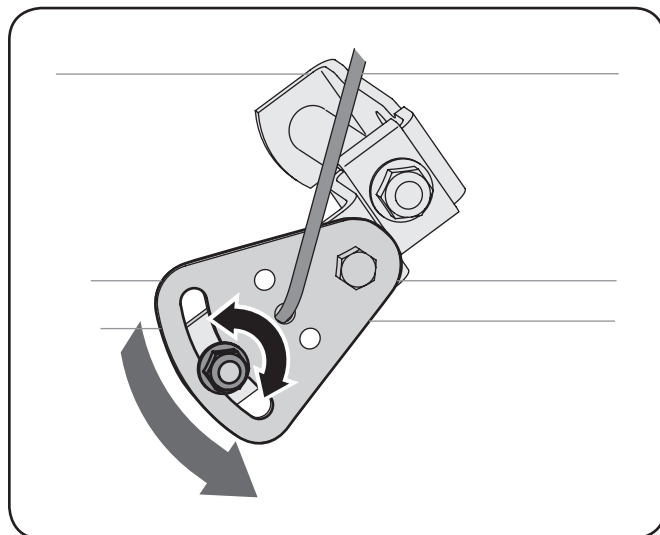

Figure 6-5
2. Loosen the hex nut on the shift cable index bracket. See Figure 6-5.